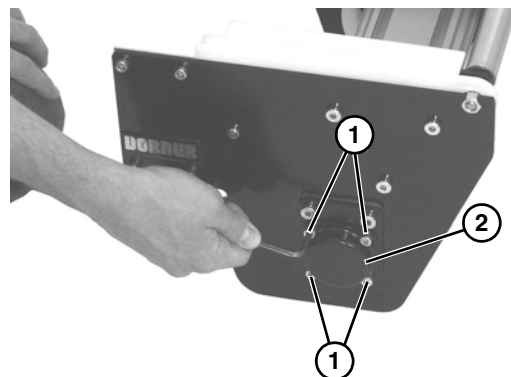

Figure 34
6. On the non-drive side, remove four socket head screws (Figure 34, item 1) and cover (Figure 34, item 2).